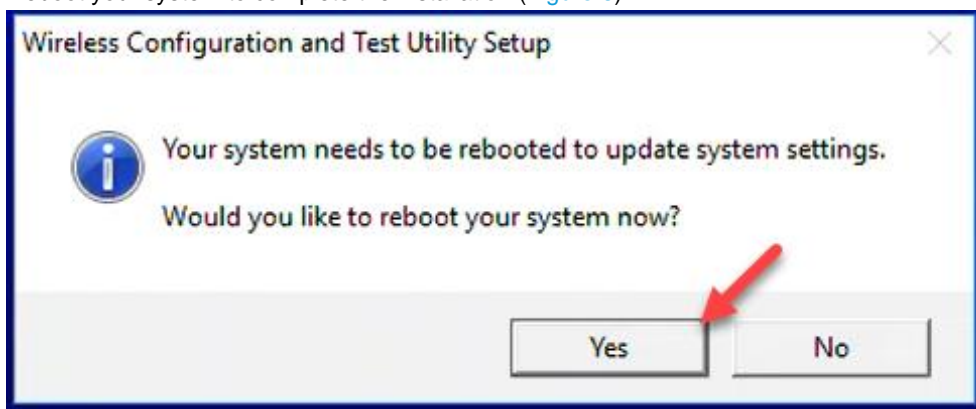

Figure 6: Reboot
6. Reboot your system to complete the installation (Figure 6).